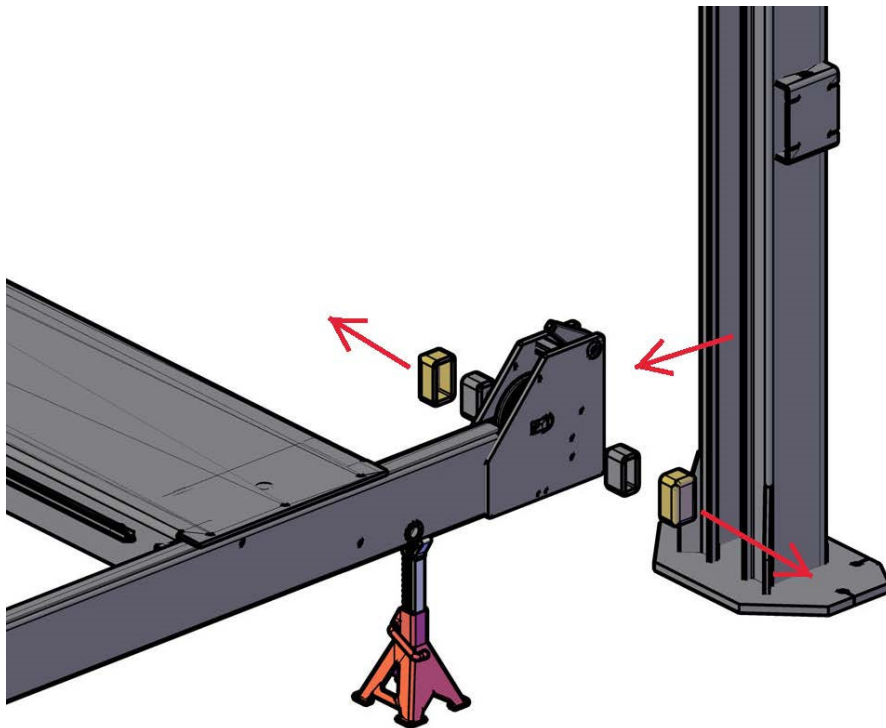

Figure 17. Tower Installation
1. Remove the slider block weldments from both crossmembers by removing the 3/8"-16UNC x 1" LG Hex HD Bolts and 3/8" lock washers attaching them to the crossmember. See **Figure 17**.